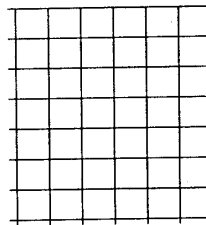

FIGURE 2.41 ■ Step 4, regular grid.
- Step 4. Using the drawn box as a frame of reference, include the grid lines in correct proportion, as seen in Figure 2.41.